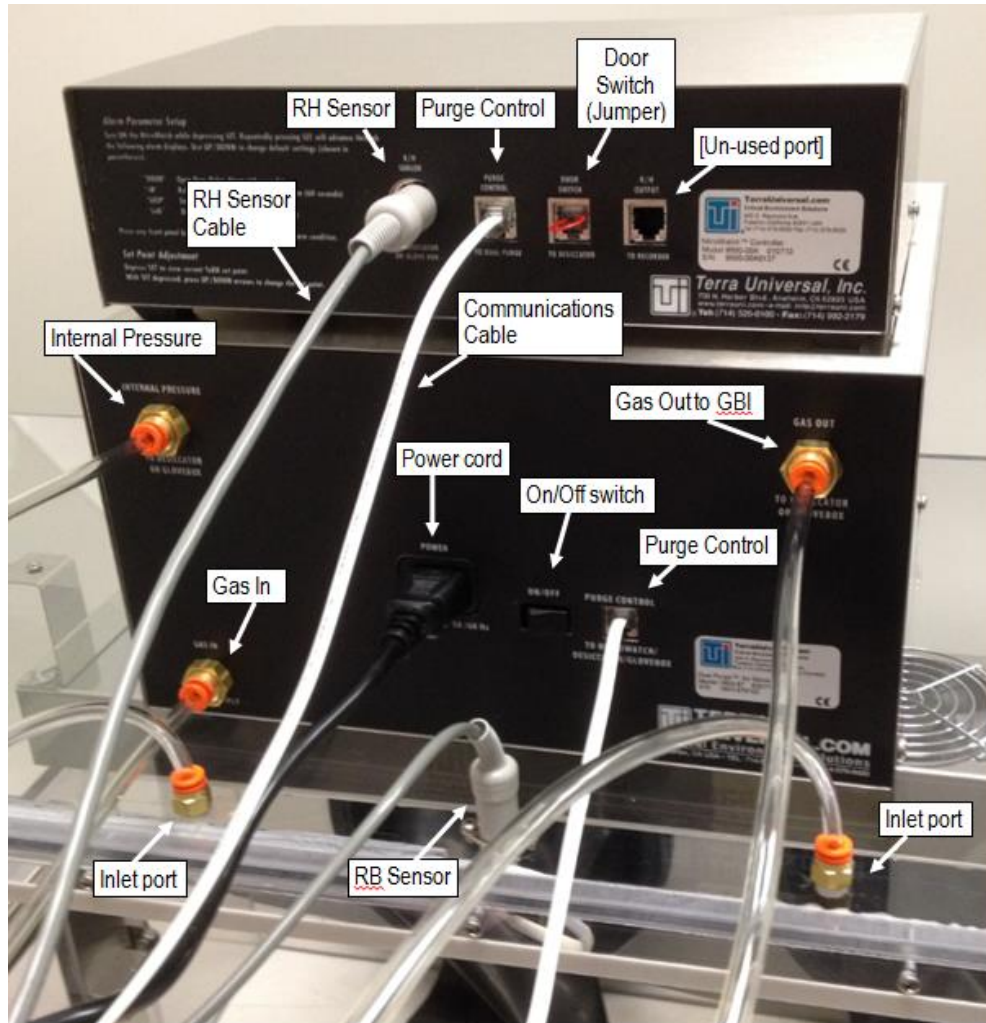

Figure 4: Rear of Dual Purge and NitroWatch Systems showing ports and connections.
9. From the “Internal Pressure” port of your Dual Purge, run another length of ¼” poly tubing to the other fitting on your glove box. See Figure 4 below for connection locations.
12. Connect your in-house gas supply to the "Gas In" port on the rear panel of the Dual Purge System via ¼" poly tubing. Refer to Figure 4 on how to operate the fittings.
- One (1) 5-ft low-voltage communications cable (included w/ NitroWatch)
2. Connect the NitroWatch control module to the Dual Purge System with the supplied low-voltage communications cable. This cable will run from the "Purge Control" communications port on the NitroWatch to the "Purge Control" communications port on the Dual Purge System. Connect the RH Sensor cable's round DIN connector to "R/H Sensor" port on the NitroWatch. Refer to Figure 4 for connections.